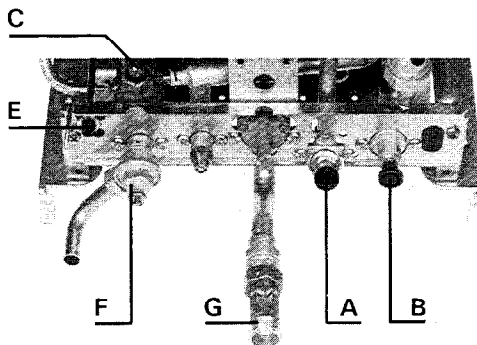

Fig. 34
- 1) Ensure that the isolating valves are open (B and C) (fig. 34).
- N.B. Valve (C) must be turned anti-clockwise by the knurled shaft until it dislocates from the thread and then pulled out horizontally to its extremity (approximately 30 mm (1 1/4 ins)).**
- 4) Vent air separator by loosening screw (E) (fig. 34) and purging until no air is apparent
- 2) Turn the lever on the gas service tap (fig. 34) (G) to the left. In the open position.
- 4) Switch to HOT WATER + CENTRAL HEATING «» on the selector switch (A).